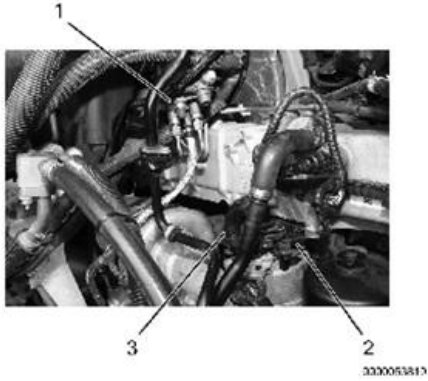

Figure 4. Air Control Valve.
17. Remove three mounting bolts from ACV (Figure 4, Item 1) and position ACV aside.
18. Disconnect CCOS housing outlet hose (Figure 4, Item 3) from CCOS housing.
19. Disconnect CCOS housing sensor connector (Figure 4, Item 2).